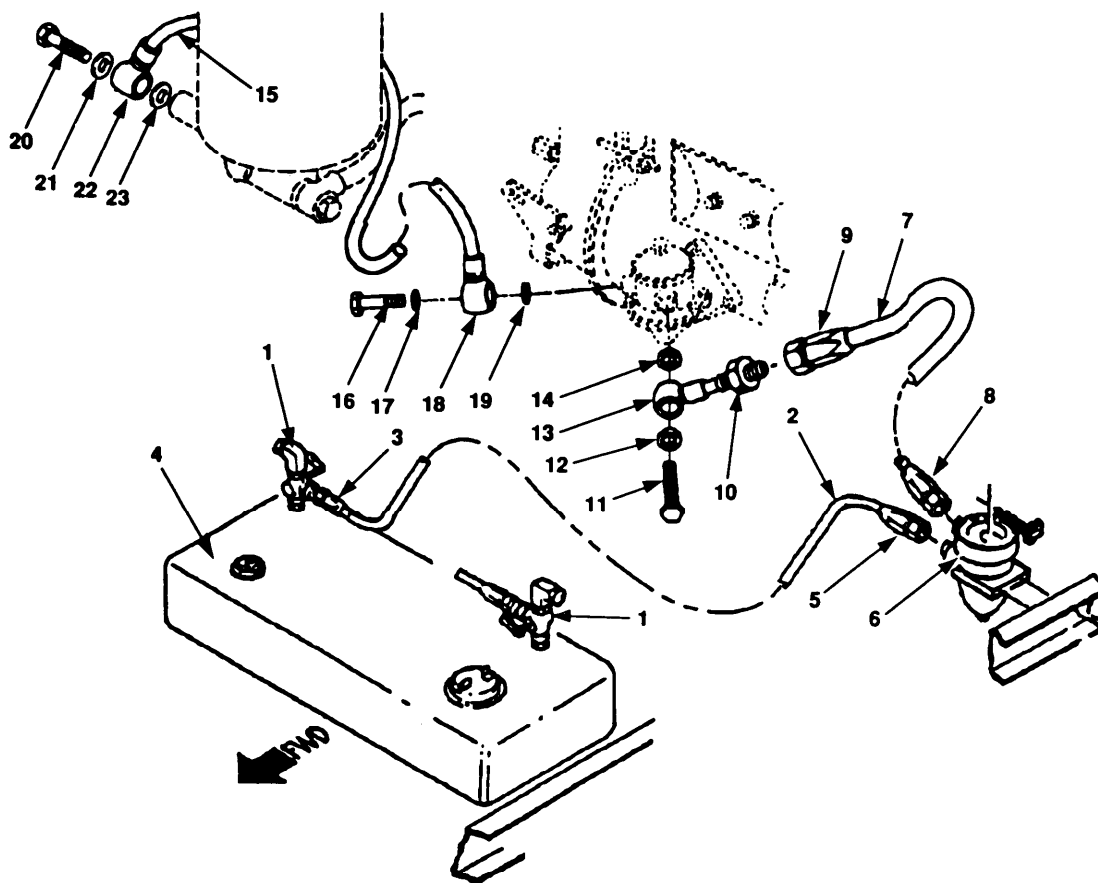
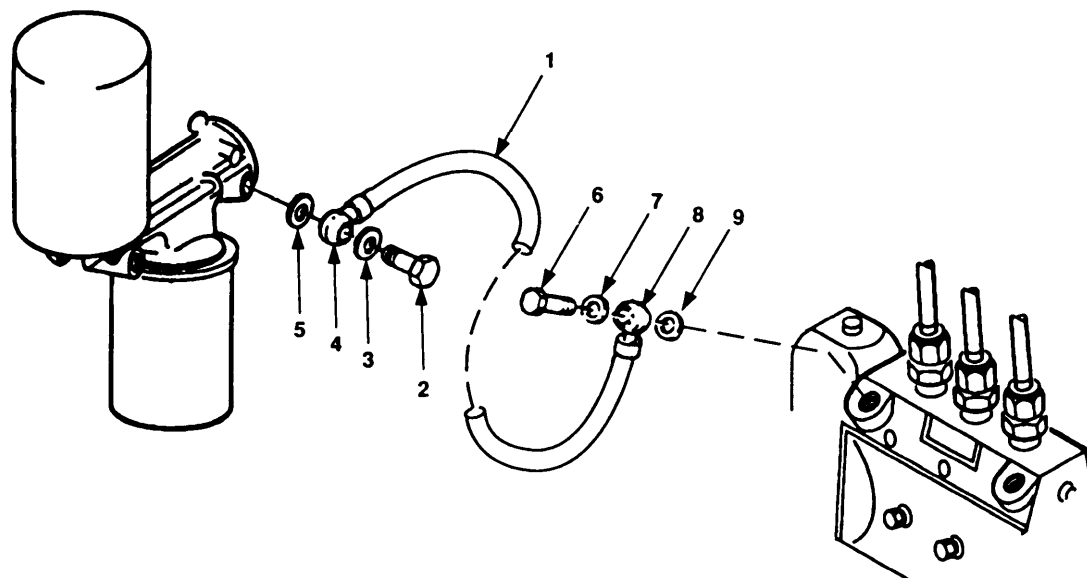

Figure 4-20. Low Pressure Fuel Lines.
Figure 4-21. Fuel Filter Outlet Line.
- a. Set both source selector valves (figure 4-20, 1) to the off position=
- b. Disconnect fuel supply line (2) as follows:
- (1) Tag and disconnect fuel supply line connection (3) at source selector valve (1) on fuel tank (4).
- (2) Tag and disconnect fuel supply line connection (5) at water separator (6) inlet fitting. Disconnect clamps as required.
- (3) Remove fuel supply line (2) and cover openings.
- c. Disconnect fuel feed pump line (7) as follows:
- d. Tag and disconnect fuel filter line (15) as follows:
- (1) Remove banjo bolt (16), washer (17), banjo connector (18) and washer (19) from fuel pump.
- (2) Remove banjo bolt (20), washer (21), banjo connector (22) and washer (23) from fuel filter inlet.
- (3) Remove fuel filter line (15) and cover openings.
- e. Tag and disconnect fuel filter outlet (figure 4-21, 1) as follows:
- (1) Remove banjo bolt (2), washer (3), banjo connector (4) and washer (5) from fuel filter.
- (2) Remove banjo bolt (6), washer (7), banjo connector (8) and washer (9) from fuel injector inlet.
- (3) Remove filter outlet line (1) and cover openings.
- (1) Remove covers from openings and position overflow line (1) on engine.
- (2) Install clamp (8), lockwasher (7), screw (6) and nut (5).
- (3) Tighten clamp (3) to secure fuel overflow line (1) in banjo connector (4).
- (4) Connect fuel overflow line connection (2) into selector valve fitting.
- e. Install fuel filter outlet (figure 4-21, 1) as follows:
- (1) Remove covers from openings and position filter outlet line (1) in place.
- (2) Install washer (9), banjo connector (8), washer (7), and banjo bolt (6) into fuel injector inlet.
- (3) Install washer (5), banjo connector (4), washer (3), and banjo bolt (2) into fuel filter.
- f. Install fuel filter line (figure 4-20, 15) as follows:
- (1) Remove covers from openings and position fuel filter line (15) in place.
- (2) Install washer (23), banjo connector (22), washer (21), and banjo bolt (20) from fuel filter inlet.